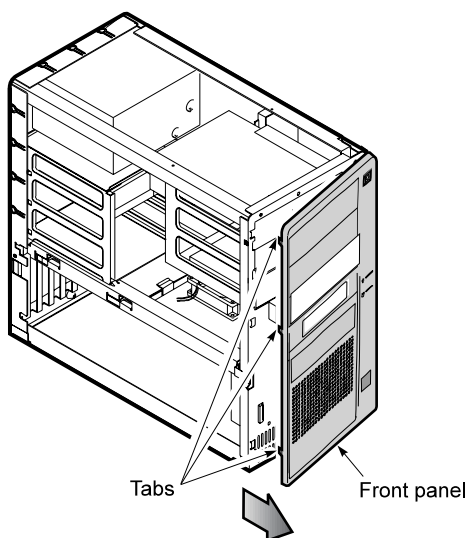

Figure 9. Removing the Front Panel
1. Push in the three tabs that attach the left side of the front panel to the chassis (Figure 9).